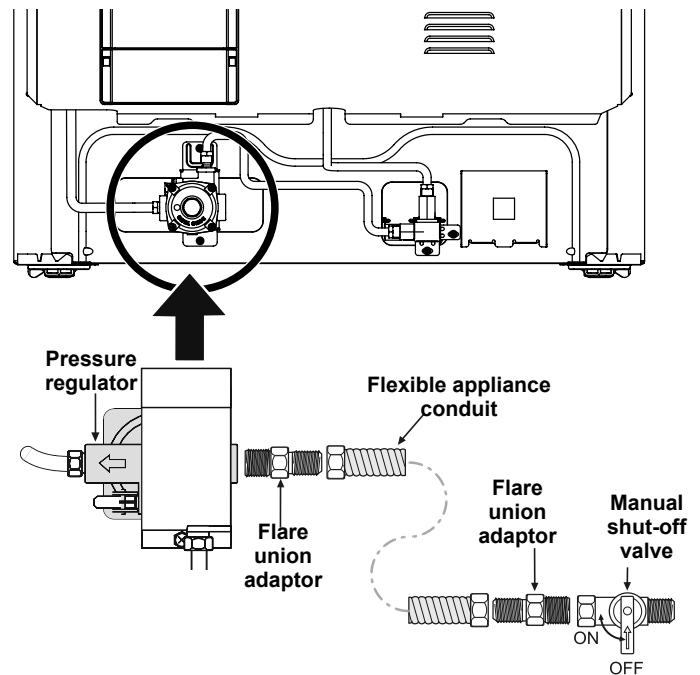

Fig. 8 - gas supply connections
- a. Install an external manual gas shut-off valve to gas supply line in an accessible location outside of range. Be sure you know where and how to shut off the gas supply to the range (See Fig. 8).
- b. Install 1/2" flare union adapter to gas pressure regulator using no more than 15ft./lbs. of torque (Refer to Fig. 8).
- d. Install flare union adapter to external manual shut-off valve (See Fig. 8).
- e. Attach flexible appliance conduit to flare union adaptor on shut-off valve (See Fig. 8).